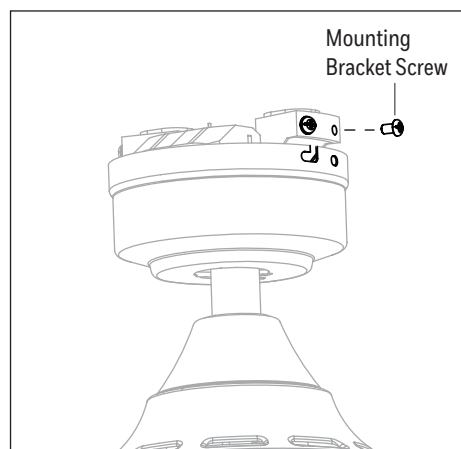

Figure 5.2
- Align the canopy over the loosened mounting bracket screws. Place the J-slot of the canopy onto the mounting bracket screws and rotate clockwise (Figure 5.2).